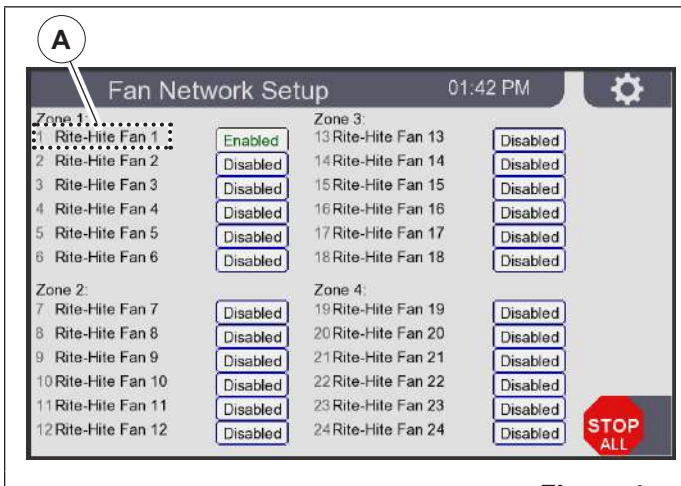

Figure 4
In the *Fan Network Setup* screen, touch the default fan name (e.g. (A) (Figure 4)) and enter a new name. The new name will be displayed on the *Zone Control* screens and *Diagnostics* screen for easier identification.
- Fan-Commander 2.0 *Fan Network Setup* is factory configured to communicate with a single fan (ID #1) (Figure 4).